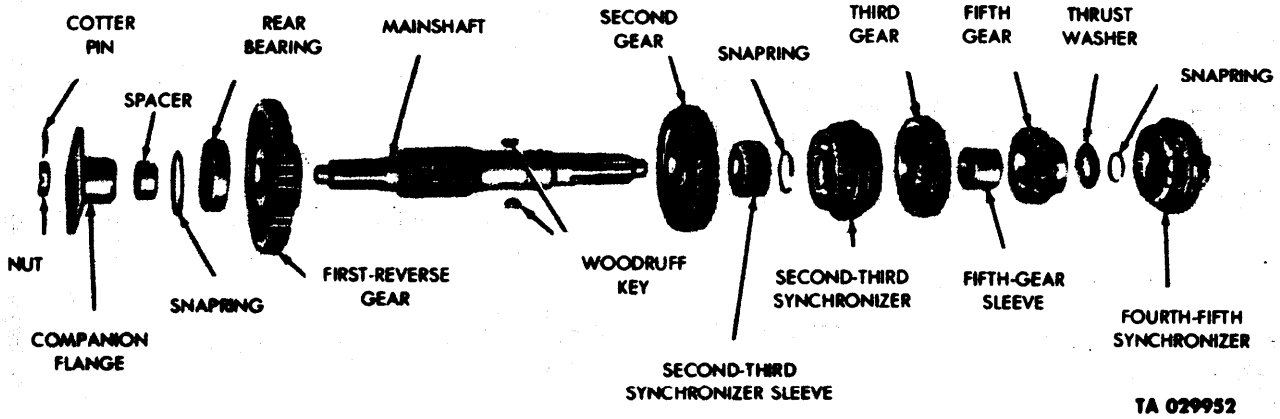

Figure 3-13. Transmission Mainshaft Assembly — Exploded View — Transmission Model 3053A.
*a. Description.* Figure 3-1 shows the transmission model 3053A used on the 2½-ton, 6x6, multifuel engine vehicles without front winch equipment. This transmission can also power a front winch by means of a power takeoff mounted on the left side of the transmission. (See fig. 3-2.) The construction of transmission model 3053A is almost identical to that of transmission model 3052, except for the fourth and fifth gear arrangements. This difference is shown by comparison between figures 3-13 and 3-6 and figures 3-14 and 3-8.